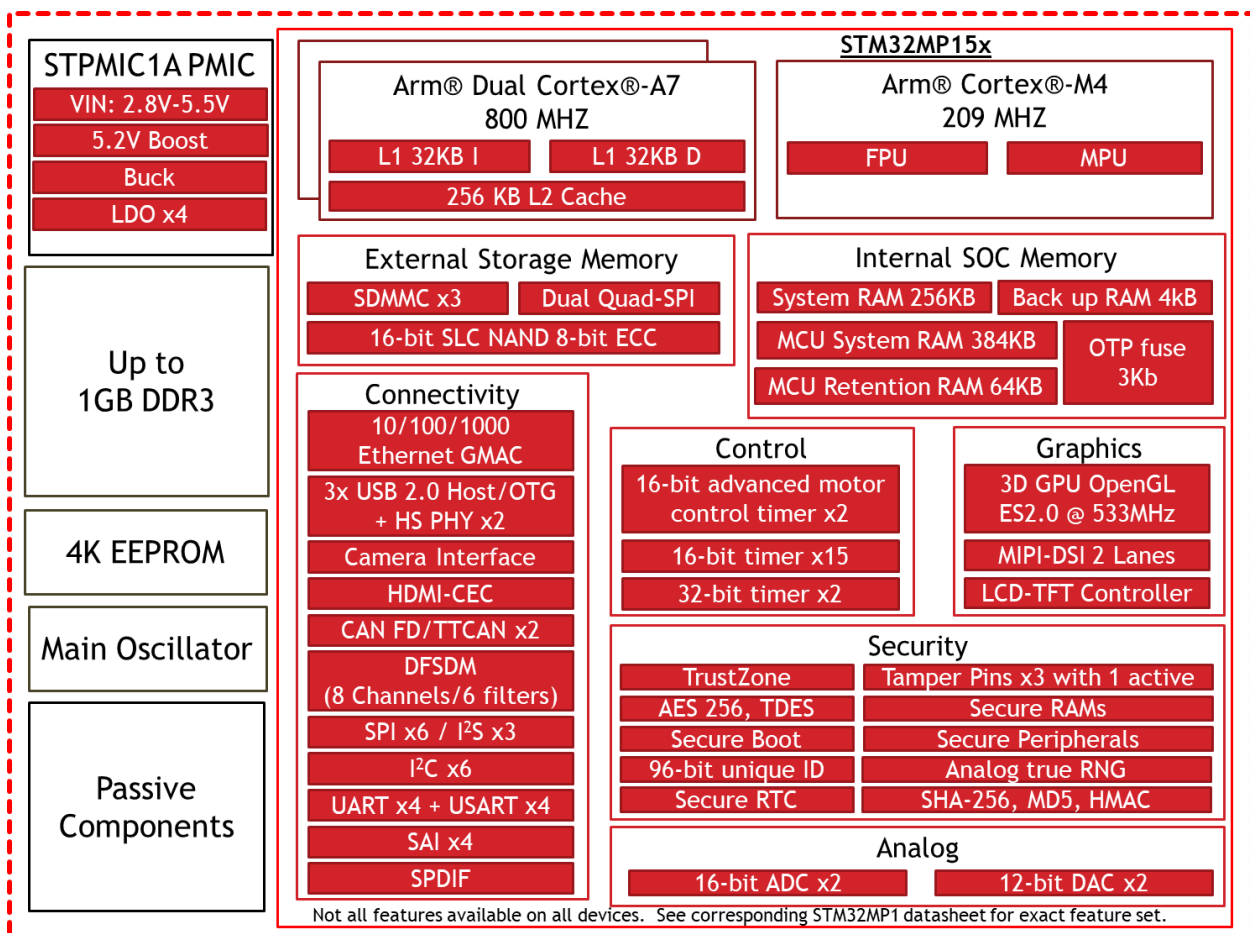

Figure 2.1 - OSD32MP15x Detailed Block Diagram
The OSD32MP15x devices consist of six (6) main components serving five (5) distinct functions. The main processor is the STM32MP15x from STMicroelectronics featuring dual core Arm® Cortex®-A7 running up to 800MHz and an Arm® Cortex® M4 at 209MHz. The power system consists of the STPMIC1A Power Management IC (PMIC). The system memory includes up to 1GB DDR3L. A 4KB EEPROM provides nonvolatile memory for configuration. Finally, there is a low power, low jitter, highly stable MEMS CMOS Oscillator. It is used for the primary clock input (HSE). Figure 2.1 shows a detailed block diagram of the OSD32MP15x and breaks out the key functions of the STM32MP15x processor.